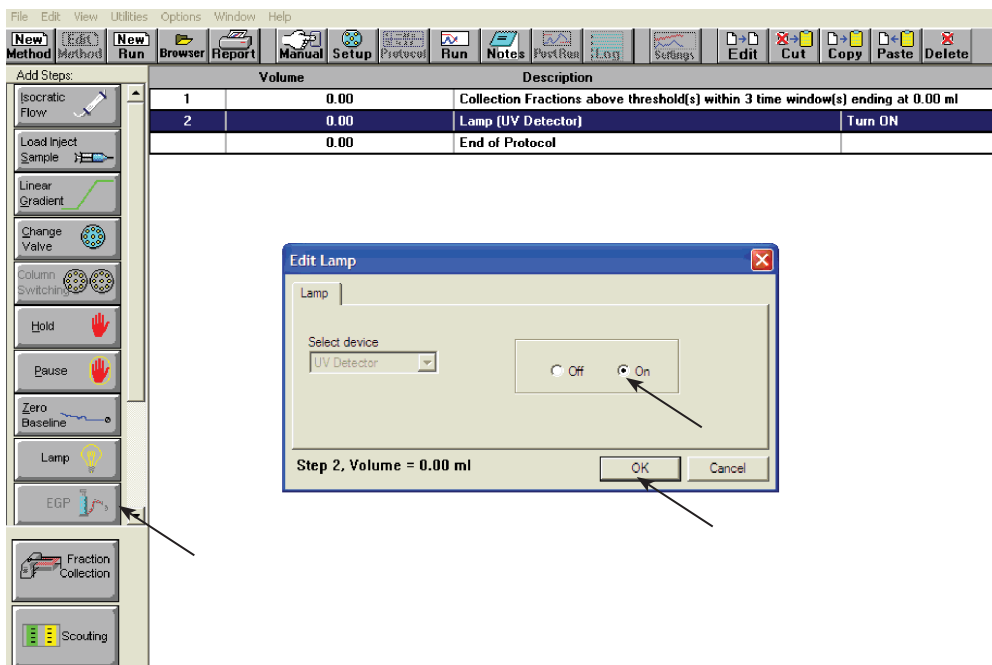

Figure 8.24. Programming Step 2: Lamp (UV Detector) Turn On.
- Step 2: Turn on the lamp by clicking on the Lamp button on the left side of the screen and then select the “on” option and click OK (Figure 8.24).